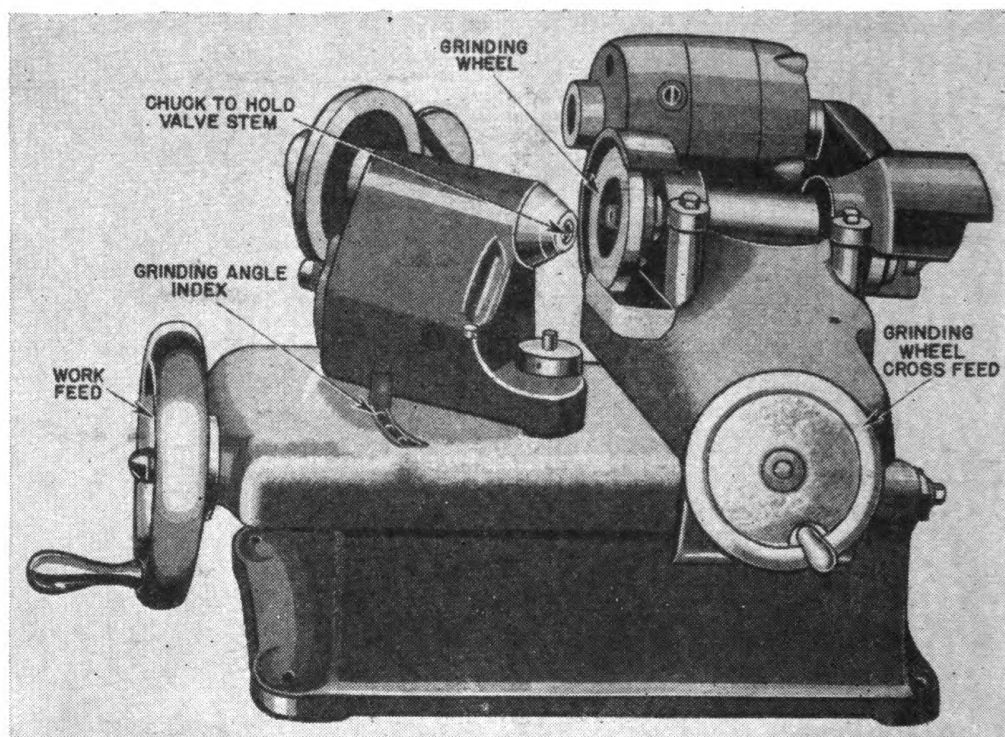

FIGURE 114.—Electric valve refacing tool.
b. Valve refacing tool.—Figure 114 shows a common type of electric valve refacing tool. Actually, this is a grinder so arranged that the angle of the valve face can be accurately set and maintained throughout the grinding operation. The abrasive wheel used produces a very smooth finish on the hard valve material. In operation, both the wheel and the work revolve but at different speeds. The valve stem is secured in a chuck which can be set at the necessary angle. Some valve refacers are equipped for wet grinding, in which a coolant (usually soda water) is run on the wheel and